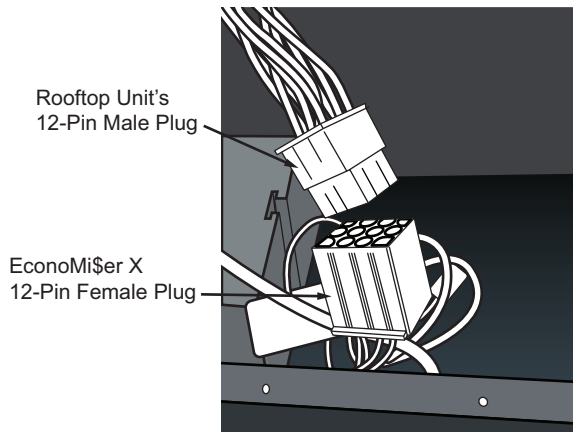

Fig. 6 — Connect EconoMi\$er X Harness to Unit PL6 Economizer Harness
8. Remove and save the 12-pin jumper plug from the unit economizer harness – located in the upper left corner of the unit. Insert the EconoMi\$er X plug into the unit wiring harness. (See Fig. 6.)